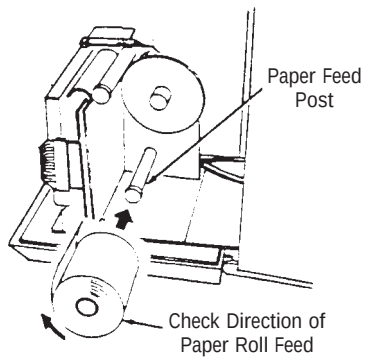

**Figure 5-13**
2. Install new paper spool onto paper feed post (Figure 5-13).